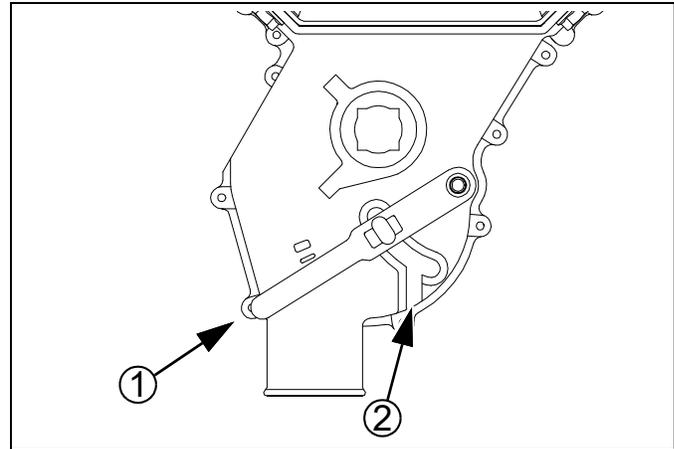

Figure 28
Refer to Figure 28, which depicts the seed cup door handle ① in a normal operating position.
1. Set the Seed Rate Handle to zero (0). This moves the seed cup sprockets out of the seed path.
3. At the seed cup for that row, pull the door handle ① out of the operating detent range, and swing it down to position ②.